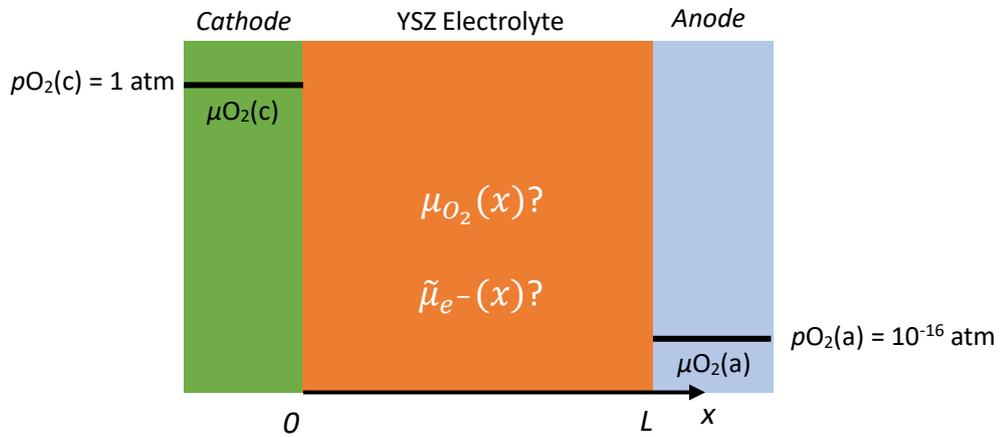

Figure 3 Schematic of a model solid oxide fuel cell with YSZ as the electrolyte.
- Consider a model solid oxide fuel cell under open circuit conditions with different pO_2 at cathode and anode, denoted as $pO_2(c)$ and $pO_2(a)$ (see **Figure 3**). Try to write down the open-circuit equilibrium condition regarding the electrochemical potential of oxide ion O^{2-} . Write down the expression of chemical potentials of oxygen gas phase for the cathode and anode.
electrolyte (in other words, the *divergence* of j_e should be zero). If we set temperature to 800°C, $p_{O_2(c)}$ to 1 atm, $p_{O_2(a)}$ to 10^{-16} atm, try to **sketch** (not solve for) the electrochemical potential of electrons, oxide ions and chemical potential of oxygen gas from one end of the electrolyte ($x = 0$) to another end ($x = L$). See Figure 3. (**Hint 2:** notice that there is a minimum in the total electro conductivity of YSZ as a function of p_{O_2})